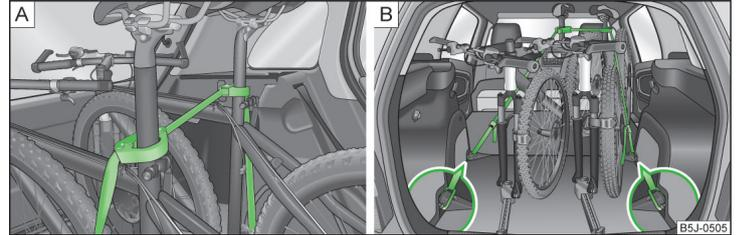

Fig. 76 Securing bicycles
- › Position the clamp with the rubber part to the front (in direction of travel) as low down on the seat post as possible and lock it » Fig. 76 - [A].
- › When transporting two bicycles, stretch the belt » Fig. 76 - [A] between the saddles by moving the bicycles apart.
- › Hook the carabiners on the ends of the belt into the lashing eyes behind the rear seats » Fig. 76 - [B].